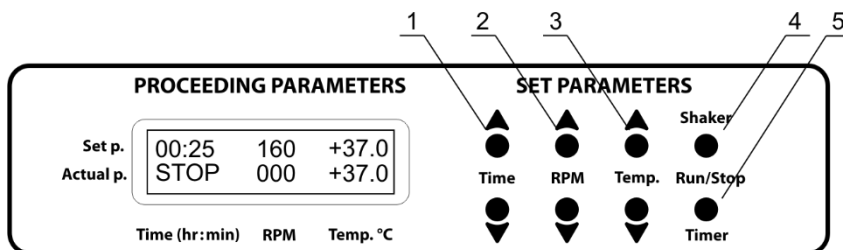

Fig.2 Control panel
- 4.3.1. **Setting time (Time).** Using the ▲ and ▼ **Time** keys (Fig. 2/1), set the required working time interval in hours and minutes (increment - 1 min). Pressing the key for more than 3 seconds will increase the increment.
- 4.3.2. **Setting speed (RPM).** Using the ▲ and ▼ **RPM** keys (Fig. 2/2), set the required shaking speed (increment 10 RPM). Pressing the key for more than 3 seconds will increase the increment.
- 4.3.3. **Setting temperature (Temp.°C).** Using the ▲ and ▼ **Temp.** keys (Fig. 2/3), set the required temperature (increment 0.1°C). Pressing the key for more than 3 seconds will increase the increment.
- 4.4.2. Press the **Shaker-Run/Stop** key (Fig. 2/4). The platform will start rotating and the timer indicator will start counting the time interval (with 1 min precision).
Caution! At the end of the set time period the platform movement is stopped automatically, but the heating can be stopped ONLY manually by reducing the temperature using the ▼ **Temp.** key (Fig. 2/3 – the lower key) till the OFF sign appears in the upper line of the display.
- 4.6. The timer can be reset during operation if required. Press the **Timer-Run/Stop** key twice (Fig. 2/5), first – to stop the timer, second – to restart the timer.